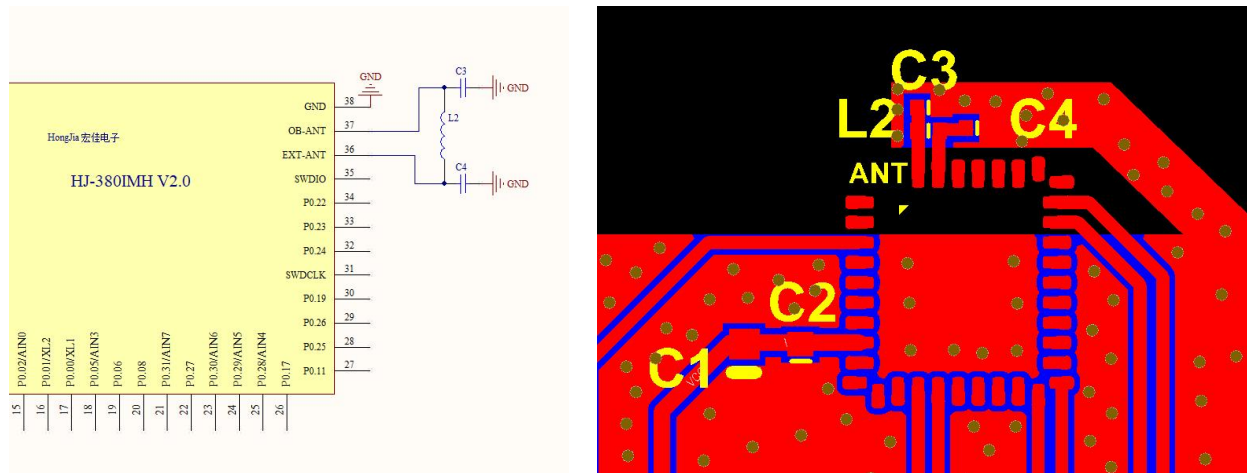

Figure 3.2: Connected through the PI circuit
② If there is sufficient space, an additional PI can be used for re-adjustment (connecting PIN36 through a π -type filter circuit to PIN37). The transmission distance will be better. The wiring method is shown in Figure 3.2.